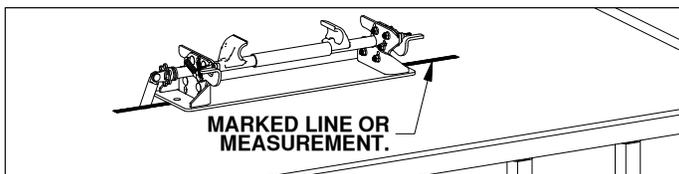

FIGURE B2: View looking down at trailer floor.
3. **Verify base installation location.** Place the Biker Bar base onto the trailer so that the mark or measurement taken earlier is aligned to the middle of the base, see figure B2. Double check that the base is square with the front or rear of the trailer.